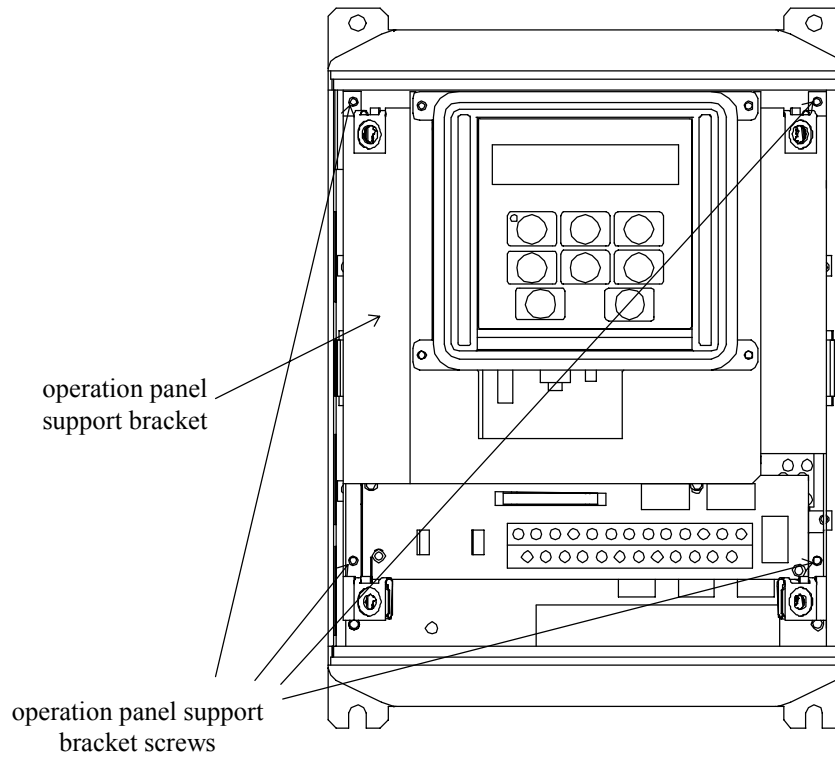

Figure 1: EIII with front cover removed
4. Loosen the 4 screws attaching the EIII's operation panel support bracket to the control board support bracket, and then remove the operation panel and support bracket as a unit (refer to Figure 1).